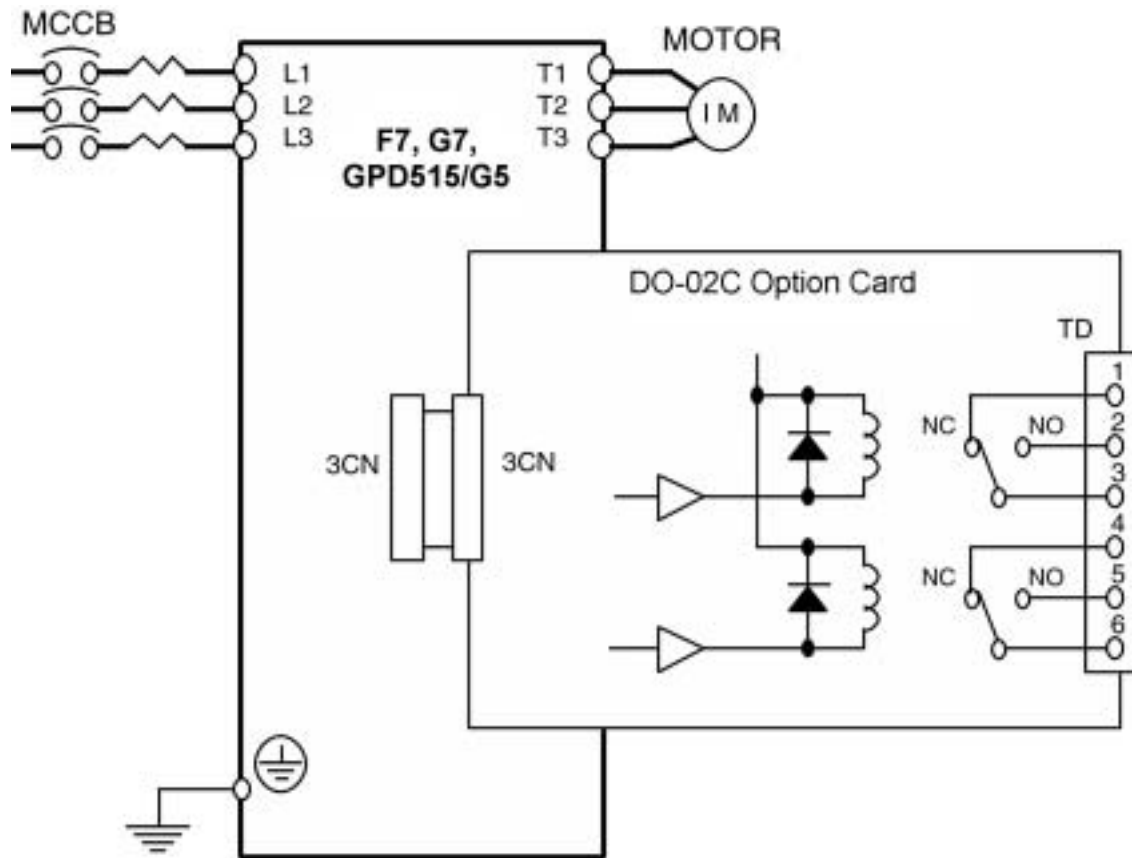

Figure 2. DO-02C Interconnection Diagram
6. **Wiring:** Refer to Figure 2 and Tables 2 and 3. Make wire connections between the DO-02C card and the drive as well as all peripheral devices. Observe the following: